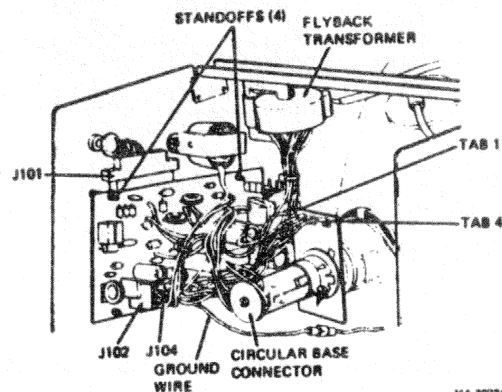

Figure 5-13 Ball Video Monitor Board Removal
2. Remove the circular connector from the base of the CRT (Figure 5-13). Bend the wire harness up and out of the way.
2. Disconnect 7-wire connector J104 at the bottom center of the video monitor board. Move the harness up and out of the way (Figure 5-13).